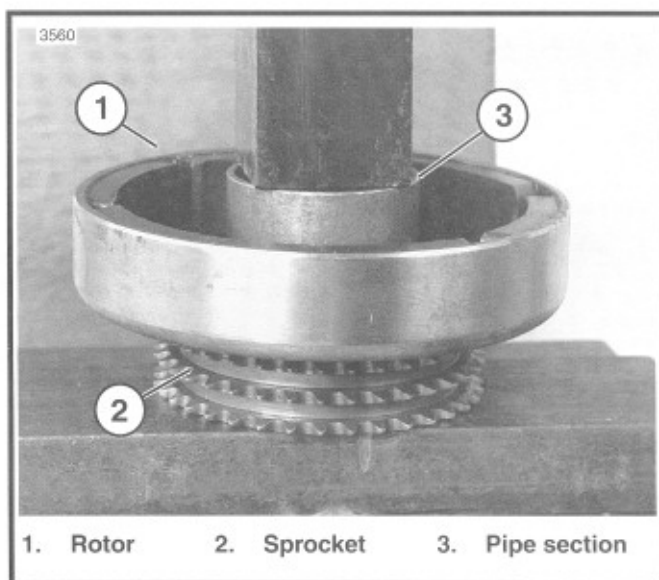

Figure 7-49. Pressing Rotor onto Sprocket
5. Route stator wiring (4) forward and then upward along inboard side of right frame downtube. Connect stator wiring (4) to voltage regulator wiring (5) at connector (6).
6. Secure stator wiring (4), along with any other wires and hoses routed in the same location, to right frame downtube using cable straps (7).
7. See Figure 7-49. Position rotor (1) on sprocket (2). Align holes in sprocket with holes in rotor. Apply a drop of LOCTITE THREADLOCKER 242 (blue) to threads of each mounting bolt. Insert mounting bolts through rotor and start bolts into tapped holes in sprocket. Position a section of pipe (3) with an inside diameter larger than the sprocket mounting hub over center of rotor. Press rotor onto sprocket. Tighten bolts to 90-110 in-lbs (10.2-12.4 Nm) torque.